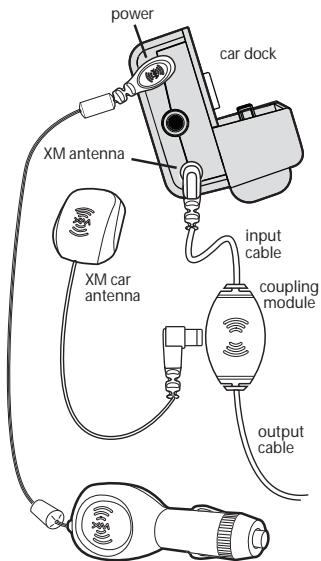

Figure 1a
4. Connect the XM antenna to the XM SureConnect antenna input, located on the coupler module about 2 feet from the end of the input cable (see Figure 1a). Tuck any excess input cable and the coupler module behind the dash or in another hidden location for a professional looking installation.